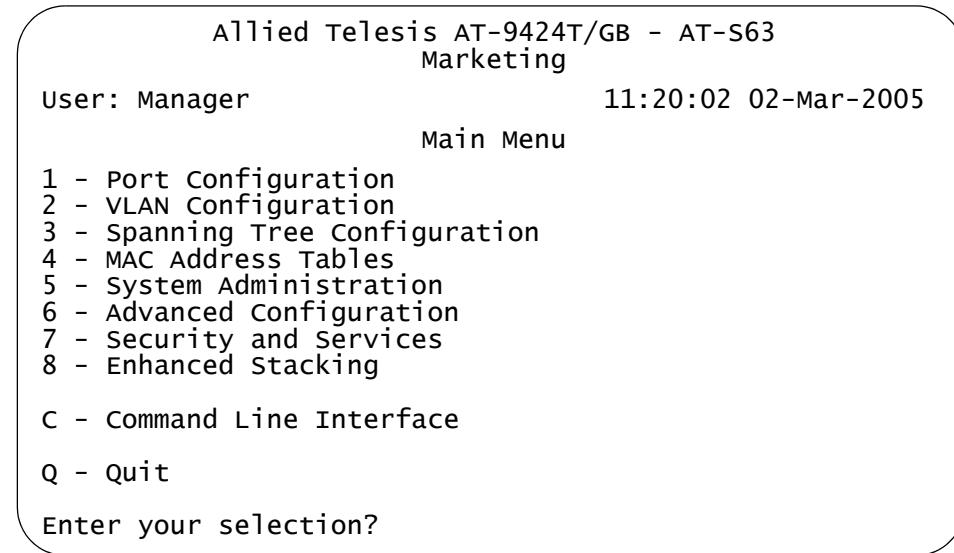

Figure 3. Main Menu
7. To use the menus interface, type **menu** and press Return. The Main Menu is shown in Figure 3.